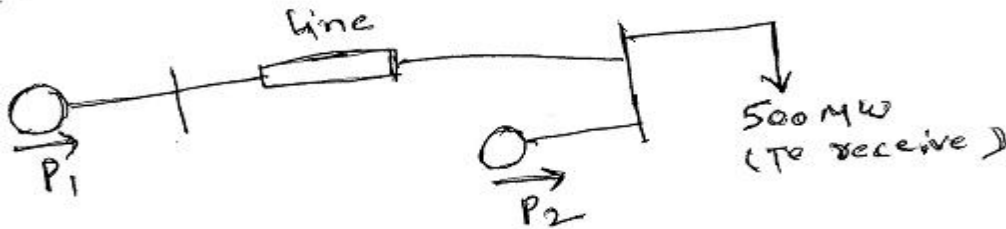

Figure 2
12. The losses in the lines shown in Figure 2 are proportional to the square of the powerflow. Both units are loaded at 250 MW. Due to transmission loss 12.5MW of power is lost. Where should the extra 12.5 MW be generated for economic operation? Attempt are scheduling to minimize the transmission loss.